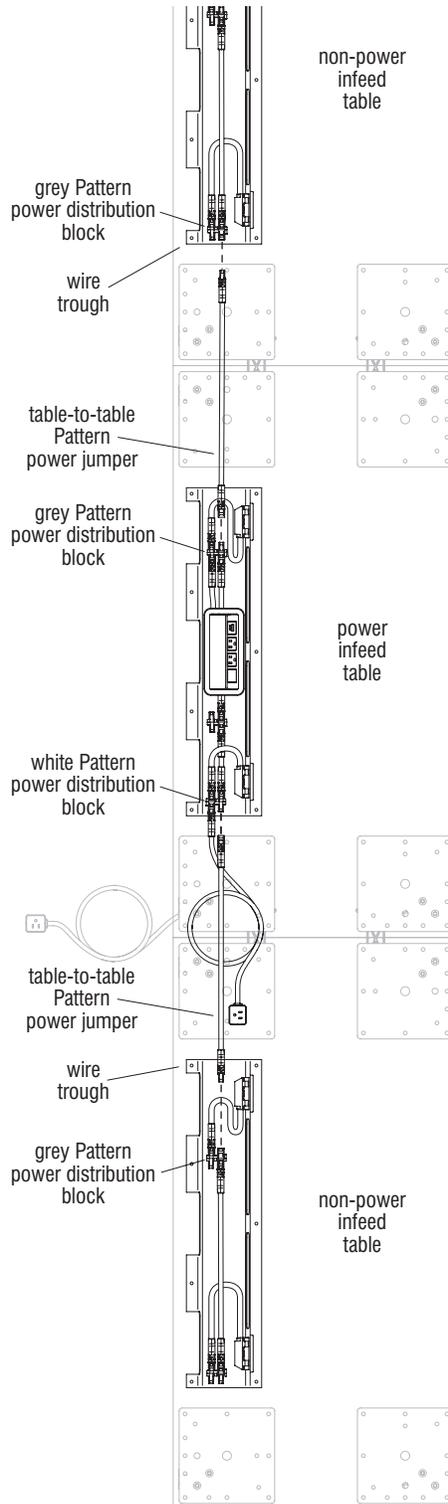

Figure 5 - (top view)
11. Locate and distribute the required number of table-to-table power jumpers along the run of non-power infeed tables which must have power connected between tables. To aid in making connection, temporarily pull from the wire trough's rear access holes, the power distribution blocks with power module connector ends and 12" power jumpers on them (Figure 5).
12. Starting the assembly process at the Pattern power infeed table and working outward, take a Pattern table-to-table power jumper and plug the female connector end into a power distribution block in the open end of the wire trough. Next, plug the table-to-table power jumper's male connector end into a grey power distribution block in the adjacent non-power infeed table's wire trough. If the power infeed table is in the middle of a run of tables, repeat the process above for the table in the other direction (Figure 5 & Detail I).
13. Continuing with table-to-table power jumper assembly on the remaining tables, plug a power jumper's female connector end into the grey power distribution block at the end of the trough, and plug the opposite end's male connector into the grey power distribution block in the end of the trough of the adjacent table. Repeat this step until all tables within the run are connected with Pattern table-to-table power jumpers (Figure 5 & Detail J).